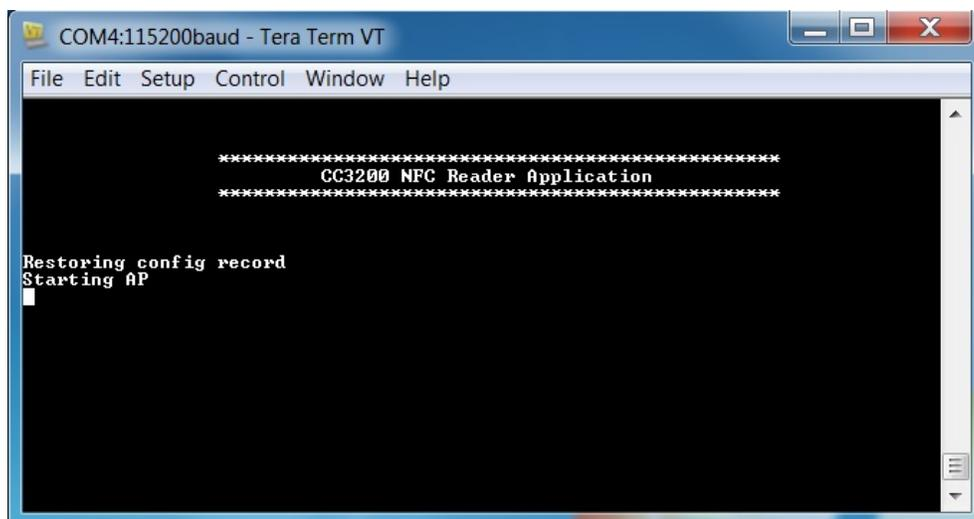

Figure 8. Teraterm Terminal When Starting the Device
1. Verify that the AP is active by opening Tera Term and viewing the output in Figure 8 on the HyperTerminal.